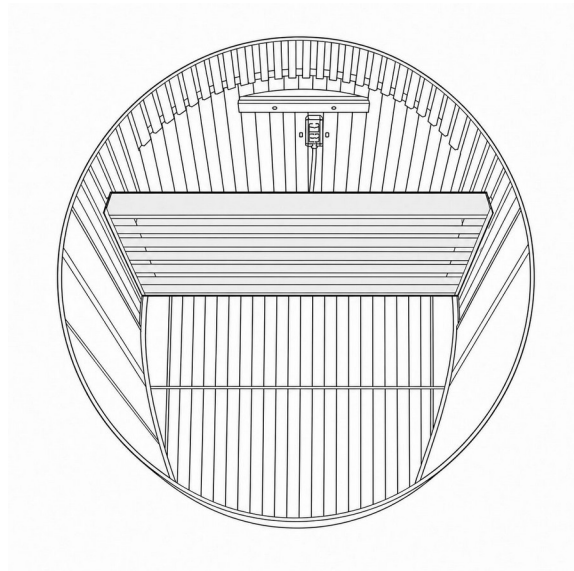

Figure 9. Calf Heater Panel placed inside the sauna, seen from above, between the Floor Panel trim and the wall panels.
- Set the Calf Heater Panel inside the sauna so it fits snugly between the wooden trim along the Floor Panel and the wall panels (Figure 9).
STEP 8 • Install the Front Panel (D)